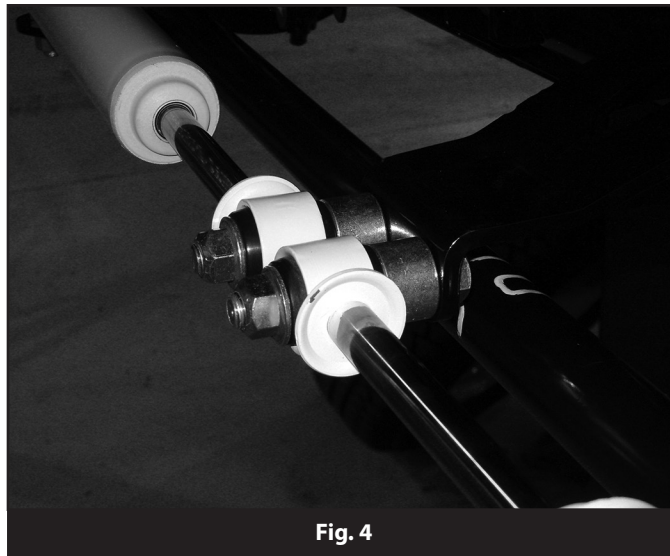

Fig. 4
9. Attach the body end of the stabilizer cylinders (end with steel sleeves installed) to the center stabilizer bracket. Run the provided 1/2" x 3" bolts from the back side of the center bracket (no washer on bolt). Install the (2) provided spacer sleeves (YJTC5) on the bolts followed by the stabilizer cylinders. (Fig 4) Fasten with 7/16" USS washers and nuts. Torque the stabilizer bolts to 35 ft-lbs.